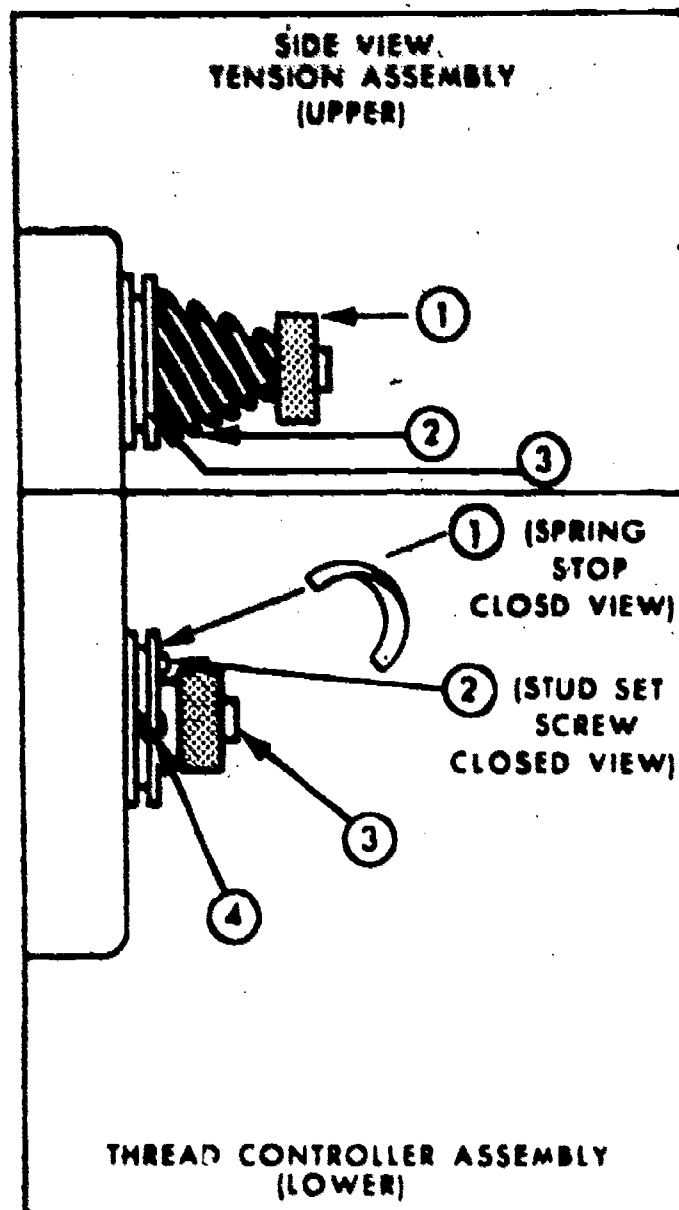

Figure 43. Tension.
The tension assembly (upper, figure 43, is adjusted by turning the thumb nut 1, on the tension study forcing the tension spring 2, against or away from the tension disks 3. Since this assembly applies direct pressure on the needle thread, the area between the tension disks must be kept clear of rust or foreign objects as follows:
The thread controller assembly (lower), figure 43, pulls slack out of the needle thread. Two adjustments on the assembly are required; adjustment of spring stop position, and tension on the thread controller spring. Thread the machine, sew a distance of four inches, and complete the following.
- a. Loosen the thread controller spring stop screw in the spring stop, point 1, figure 43.
- a. Loosen the thread controller stud setscrew point 2, figure 43.
- b. Insert a screwdriver on the thread controller stud point 3, figure 43.
- c. Turn stud to the right to decrease thread controller spring tension point 4, figure 43, to the left to apply tension.
- d. Hold the study with fingers of left hand and tighten the stud setscrew, point 2, figure 43, with a screwdriver.